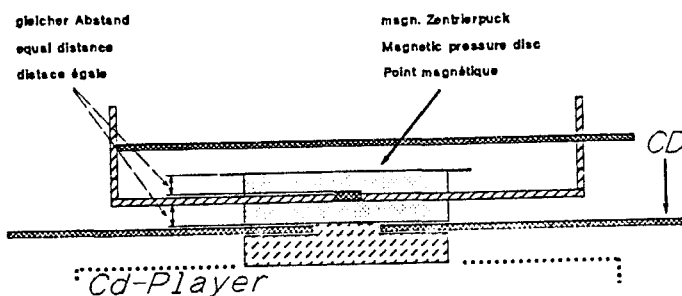

Fig. 8
- Top edge of magnetic pressure disc should be in middle position between plastic cover and nose in front of lid arm hole (Fig. 8).